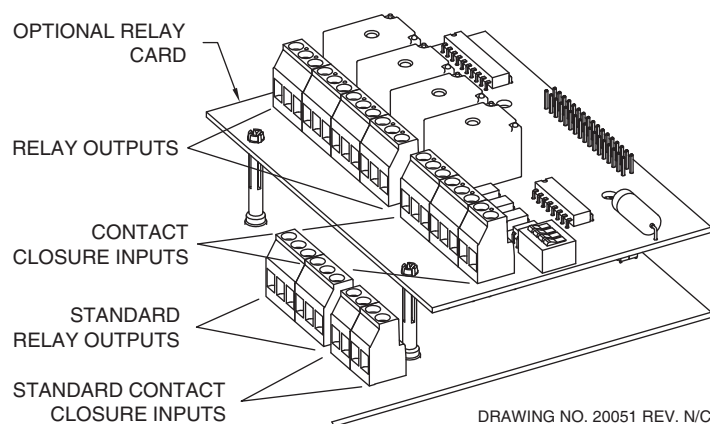

Figure 3-9 - Relay Output/Contact Closure Input Layout
The standard TMS2000 includes two (2) dry contact closure inputs and two (2) relay contact closure outputs as illustrated in Figure 3-9 below. Also shown is an optional 4 Input/4 Relay Output Card. An optional 8 Input/8 Relay Output Card or 16 Relay Output Card is available.